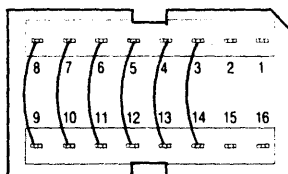

Figure 3-13
2. Remove the Configuration Header, board location 3A, and replace it with a 16-pin header wired as shown in Figure 3-13.